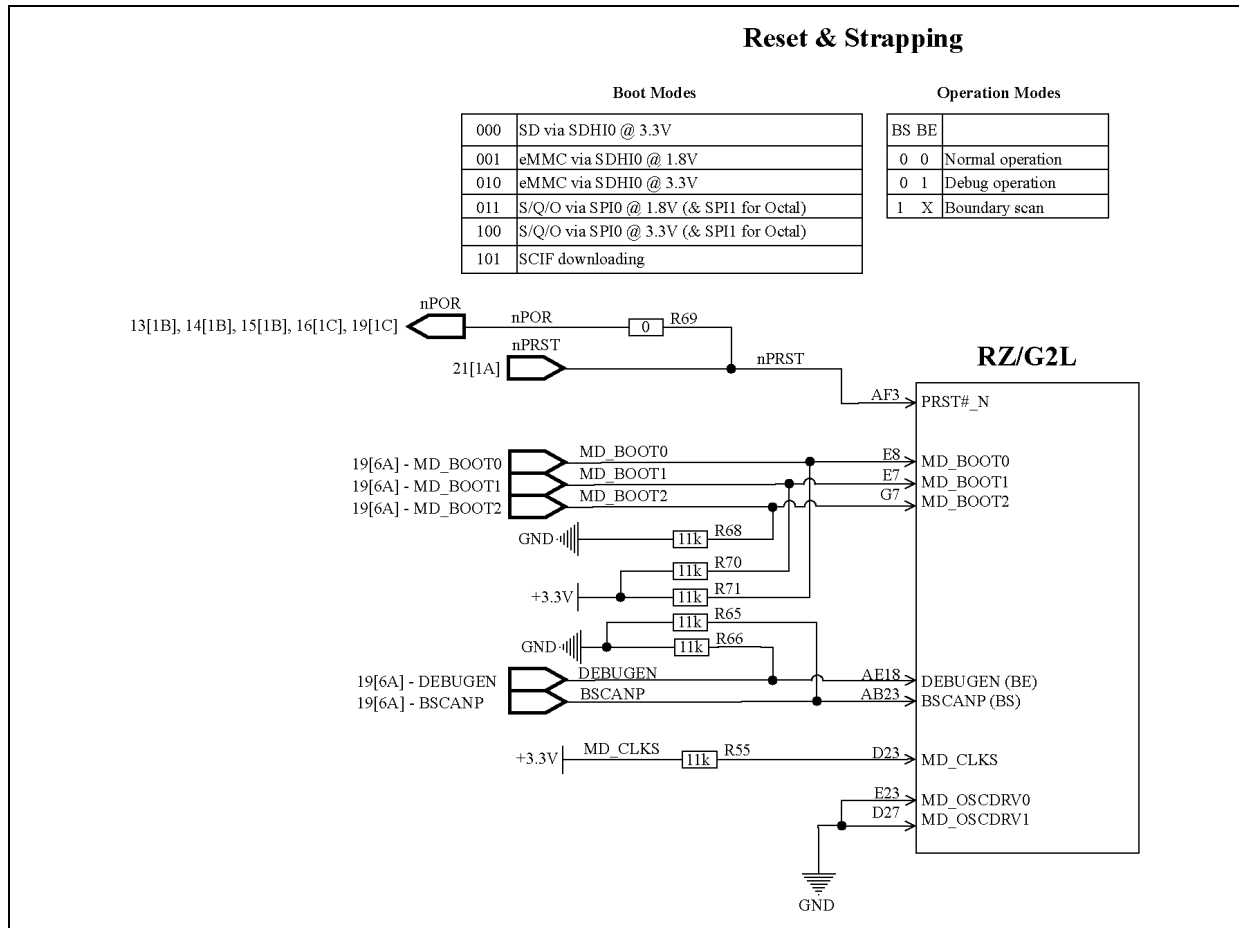

Figure 84. Reset Control Logic
In addition to the boot order, the SoC has two more lines: DEBUGEN (BE) & BSCANP (BS). These lines control the boot mode, which can be JTAG boundary scan or debug mode. Figure 84. Reset Control Logic below shows all the necessary information.